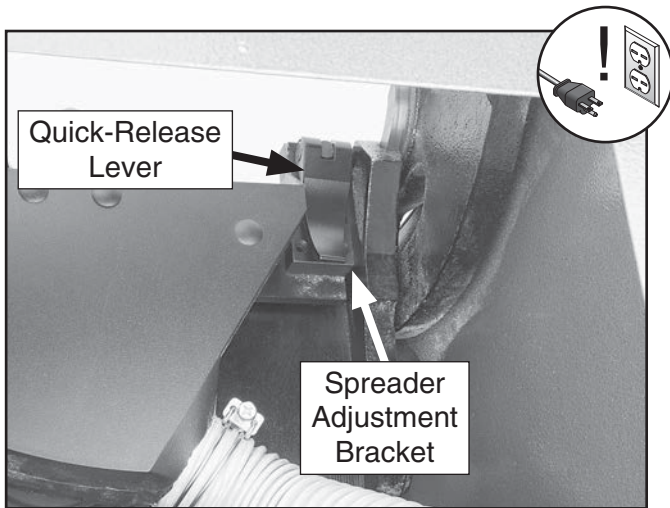

Figure 3. Location of quick-release lever (viewed from inside cabinet).
3. Flip quick-release lever up, insert riving knife into spreader adjustment bracket, then push lever down (see **Figure 3**).